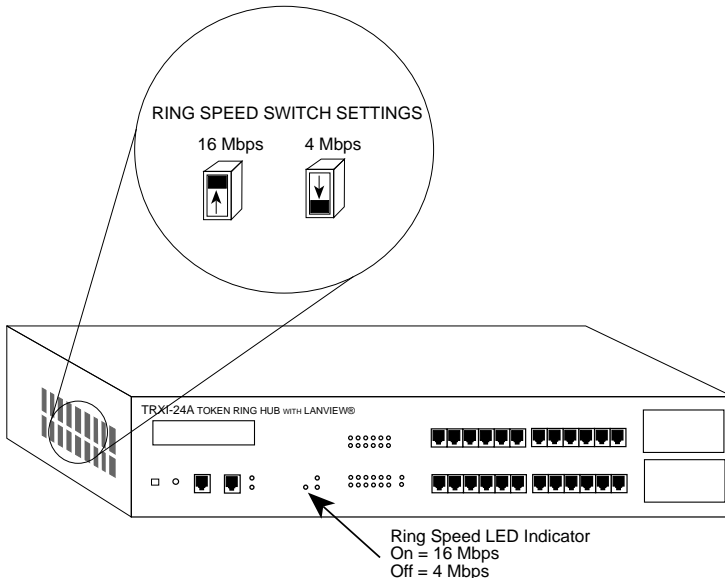

Figure 3-6. The Ring Speed Switch
This section explains how to change the TRXI's ring speed from the factory default setting of 16 Mbps to 4 Mbps. To change the ring speed, you need to set the switch located inside the TRXI as shown in Figure 3-6. You can access the switch through the air vent with a small screwdriver.
3. Use the screwdriver to slide the switch to the desired setting as shown in Figure 3-6.